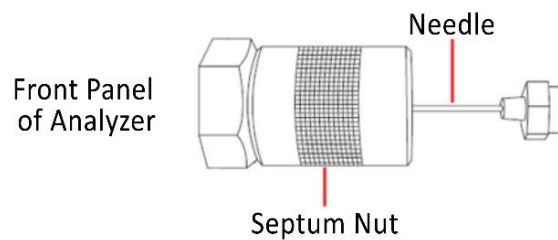

Figure 118: Needle and Septum assembly attached to the injection port
8. Slide the needle with septum assembly onto the injection port on the front panel of the analyzer. (Figure 118)